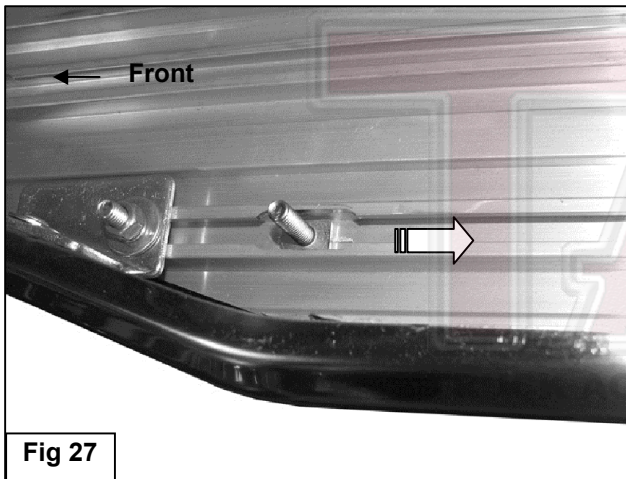

Fig 27
19. Carefully unwrap the Running Boards and select the passenger side Running Board. Insert (6) 6mm T-Bolts into the slots in the ends of the channels, (3 T-Bolts per slot), on the bottom of the Running Board, **(Figure 27)**. Hold the Running Board up in the approximate position and slide the T-Bolts down the slots to line up with the Brackets. Tilt the Running Board up at a slight angle to clear the slots in the Brackets. Secure the Running Board to the Brackets with (6) 6mm Flat Washers, (6) 6mm Lock Washers and (6) 6mm Hex Nuts, **(Figure 28)**. **NOTE:** The Running Board is designed to fit close to the vehicle. It may be necessary to loosen the Mounting Brackets and tilt the Brackets downward to insert the Running Board. Do not fully tighten hardware at this time.